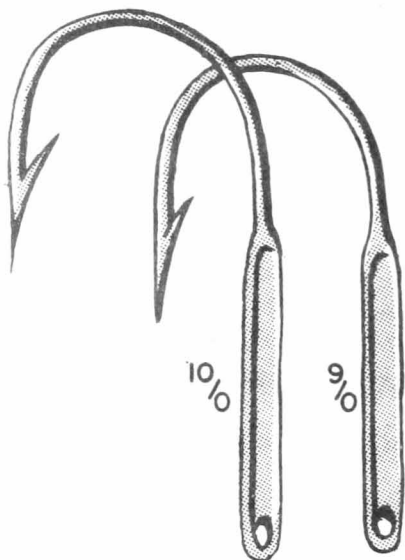

FIG. 13 - HERRING TYPE HOOKS.
3. The leaders consist of a five inch snap on connector, (Fig. 11), a moulded trolling rubber or rubber tubing of about 1 1/4 inches, a small corkscrew connector, (Figure 6), 2 or 3 fathoms of 21 to 24 strand braided nylon cuttyhunk, another corkscrew connector, and an eye or loop on a stainless steel leader 3 to 5 feet in length (Figure 12). When bait is used, a number 9 or 10 (flat shanked) herring hook (Figure 13) is attached to the stainless steel leader by a double thickness of 9-ply linen salmon twine about 5 to 7 inches in length. The leaders are snapped on the main fishing line between the paired line stops by means of the spring wire connectors. (Figure 11).